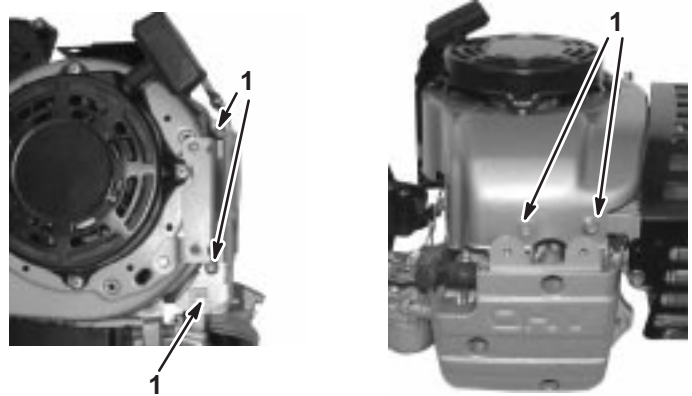

Fig. 71 – Removing Blower Housing
1. Screws (2)
5. Remove four (4) screws, two (2) from front and two (2) from rear of blower housing, Fig. 71.